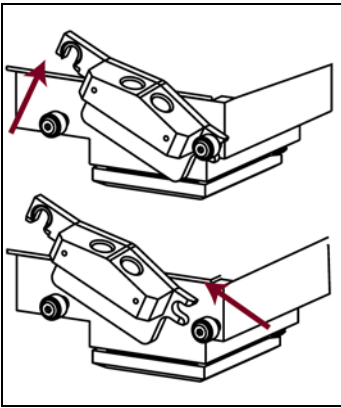

Figure 15
5. Remove the injector tip holder from the optical head. Facing the front of the Veritas, push upward, then leftward (as viewed from the bottom of the holder to release the holder from the optical head). (See Figure 15.)